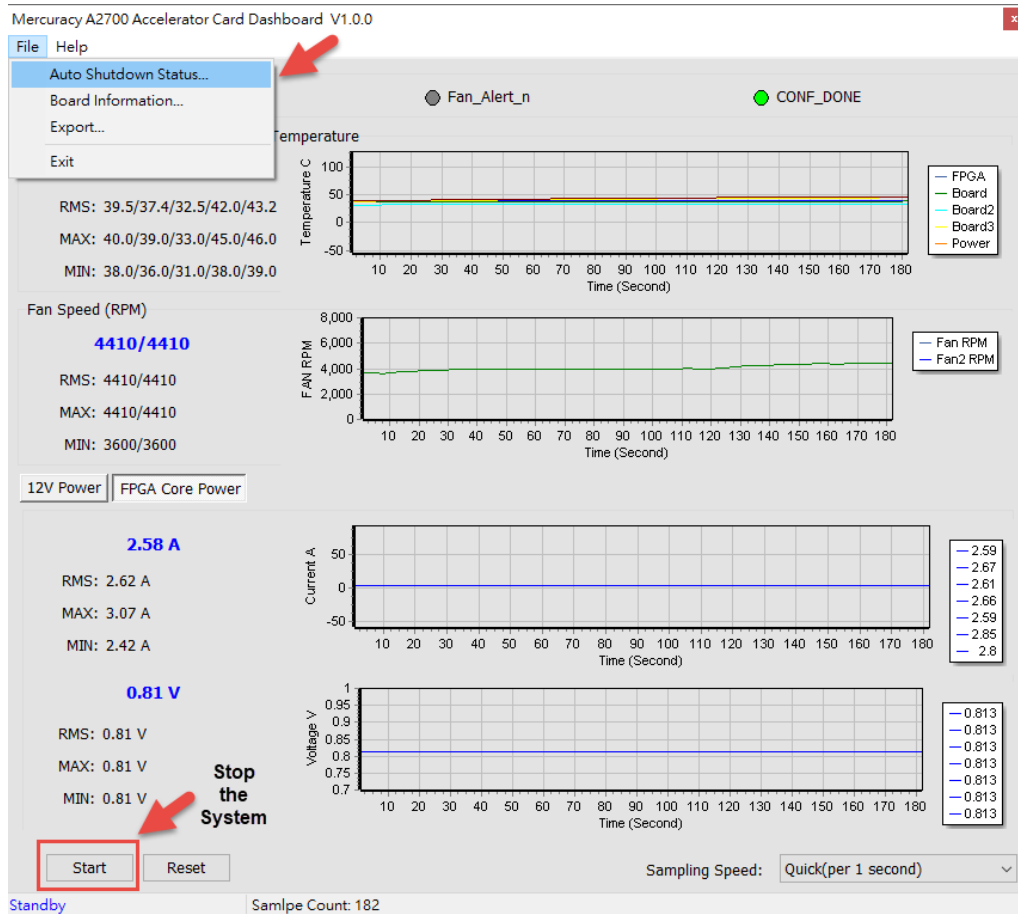

Figure 4-16 File Menu Options
- **File Menu:** The user can click "File" menu at the top left of the GUI (See **Figure 4-16**) and some options such as board information and status export will appear.